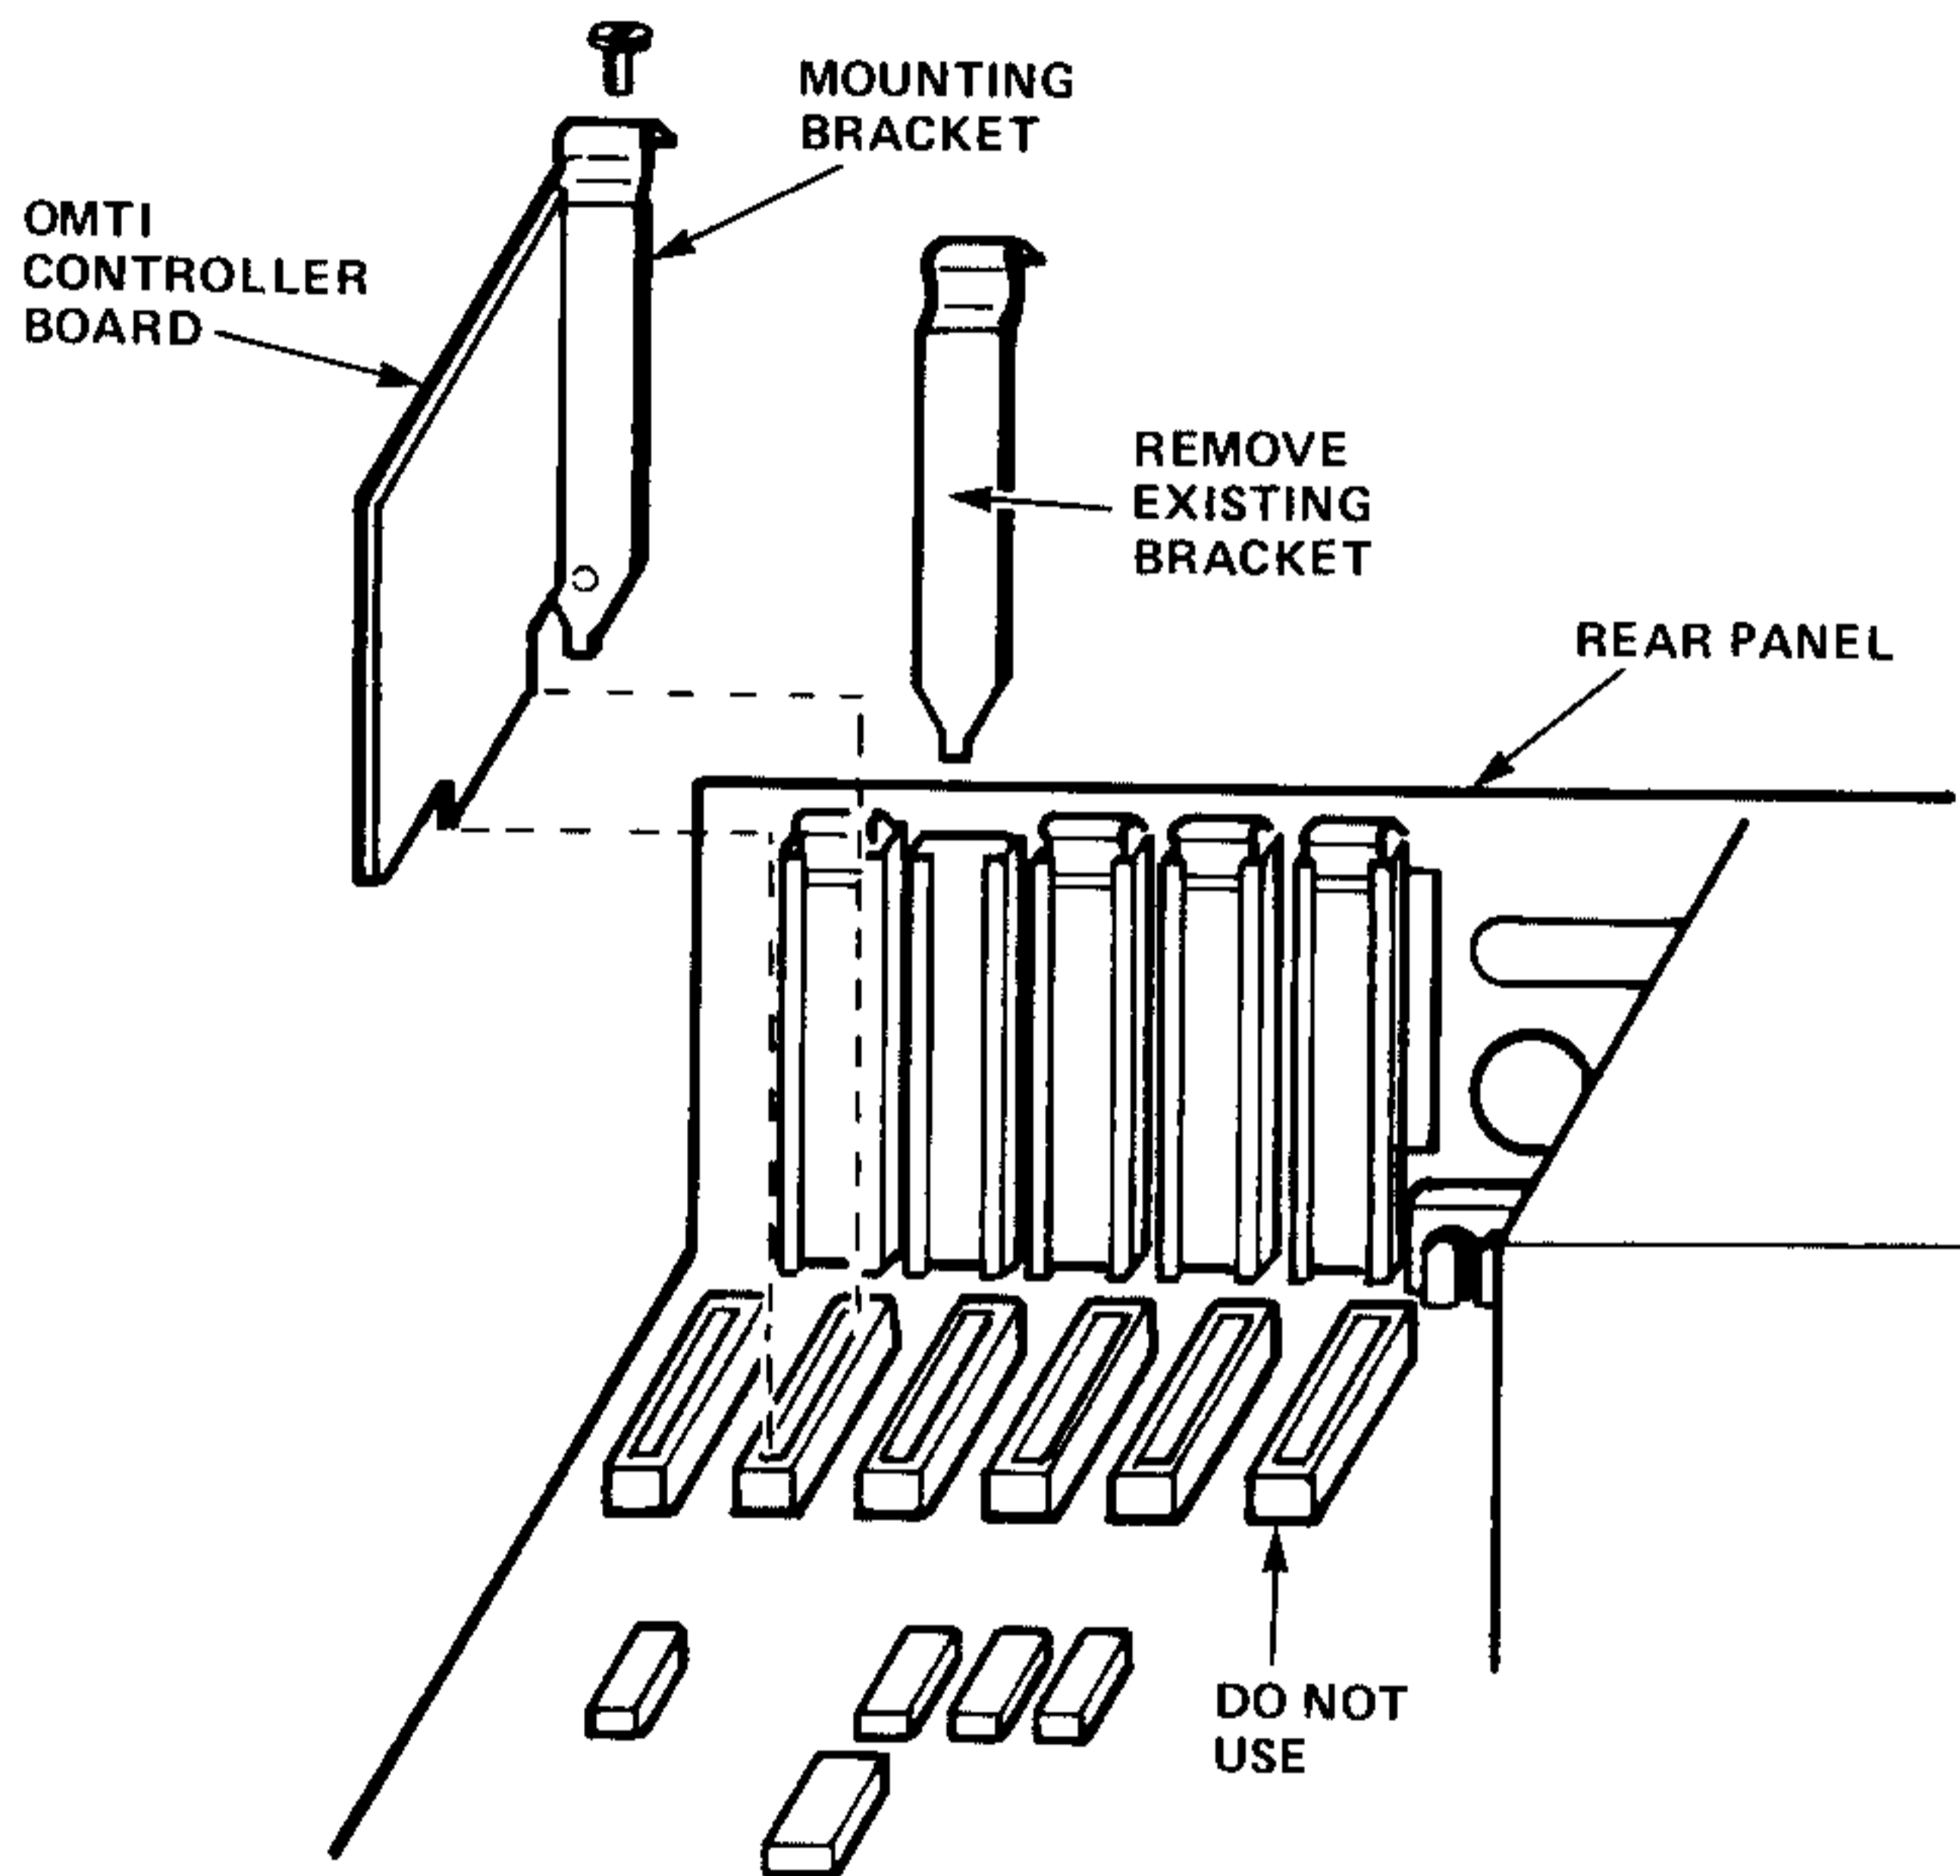

Figure 1-3. Controller Installation
3. Refer to Figure 1-3. Remove the screw and shield strip from the rear panel behind the expansion connector you are going to use. Slide the 5520A /B or 5527A controller board downward and press the PC XT BUS edge connector into the connector slot of the PC. Reinstall the screw in the controller mounting bracket.